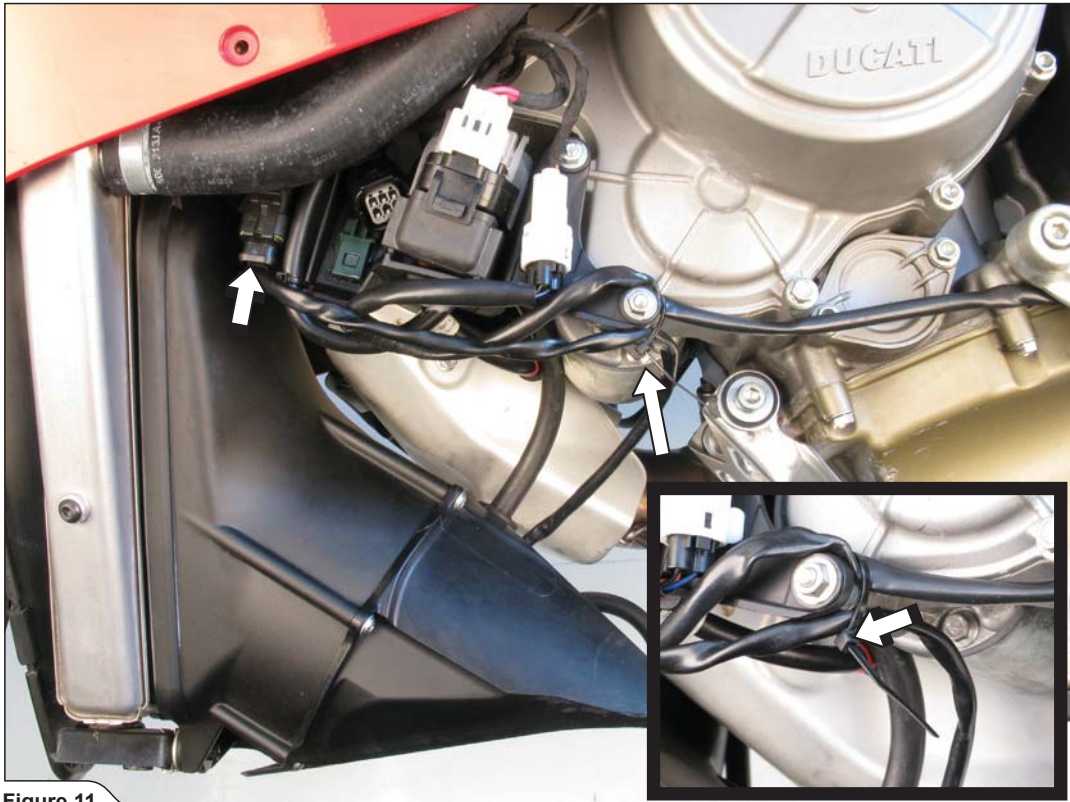

Figure 11
9. Reconnect the cooling fan's connector and secure the electrical leads as shown, using tie wrap from Akrapovič installation kit (**Figure 11**).